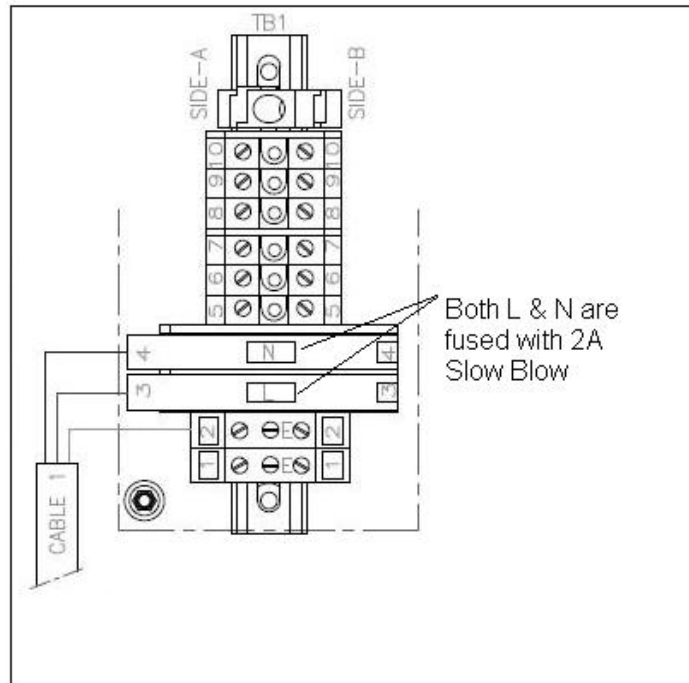

Figure 3.4 ACU mains connector and fuse location
The cables used to connect other system components to the ACU are shown in Figure 3-4.
1. Ensure that a 2.5 A, 20 mm slow blow fuse is fitted in both terminal mounted fuses (located on TB1, see Figure 3-4).